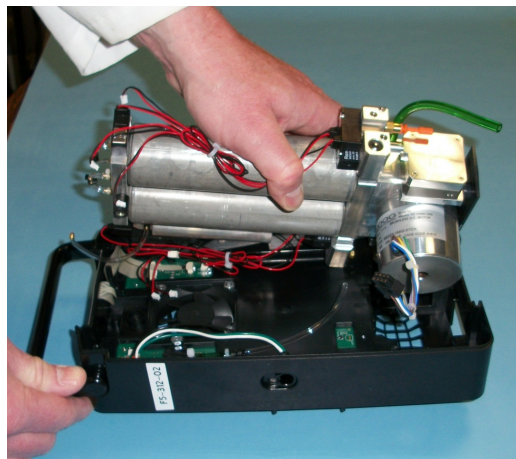

Figure 5.15
12. Carefully remove the complete PSA assembly from the center housing by pulling it upwards and slipping compressor molex connector through center section. (See Figure 5.15.)